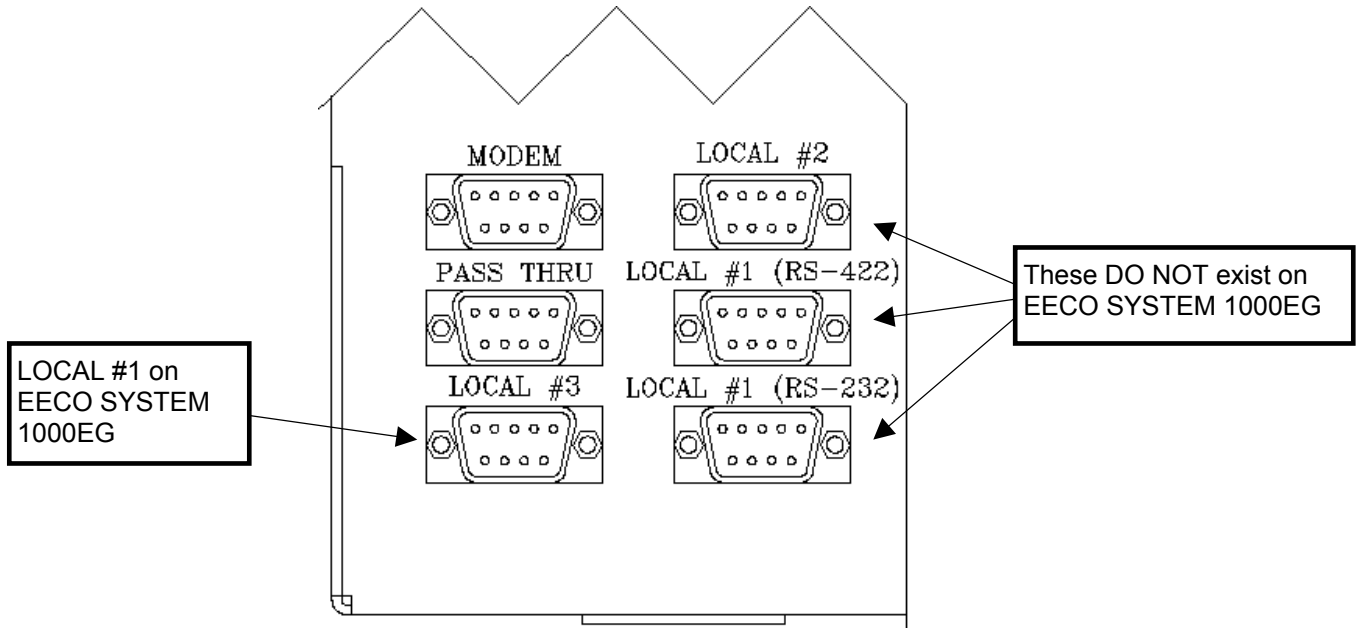

Figure 20 - EECO SYSTEM 1000EG / 2000 Serial Port Identification
- Plug the Modular Adapter into the appropriate DB-9 serial port at the ATG console. Refer to Table 3 and Figure 20 for the port location.